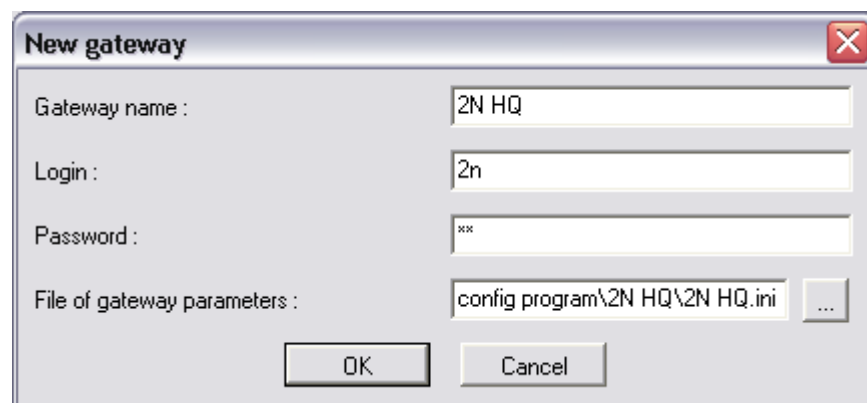

Fig. 29 – Gateway Editing Window
- *Add* - click on *Add* to open a window with some essential data necessary for the gateway identification (see Fig. 29). Enter the gateway name chosen by you into the *Gateway name* item. In case that gateway has activated secure access, it is recommended to complete the *Gateway address*, *Username* and *Password*. Eventually, complete the *File of gateway parameters* including the directory path and filename.